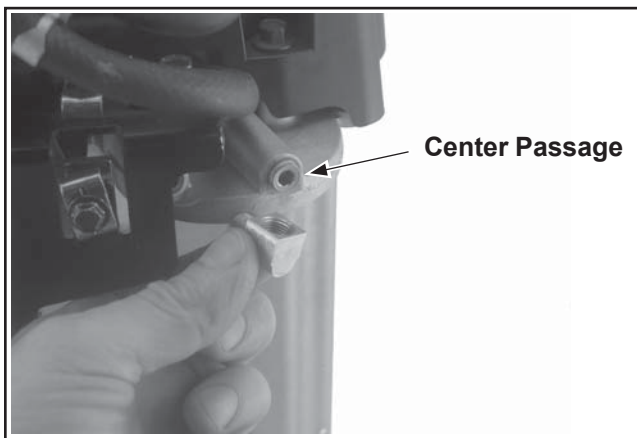
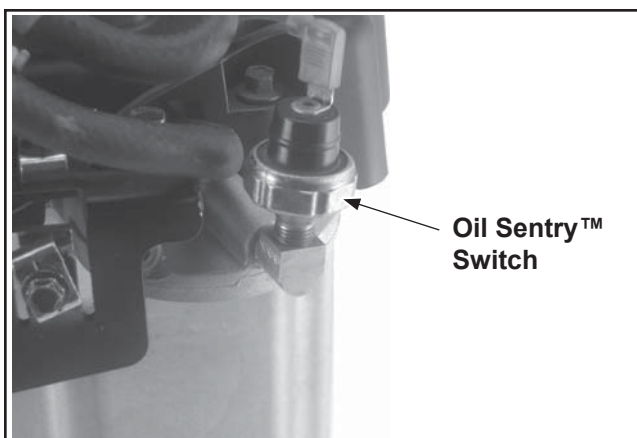

Figure 10-78. Installing Pipe Plug or Adapter.
Figure 10-79. Installed Oil Sentry™ Switch.
1. Apply **pipe sealant with Teflon®** (Loctite® No. 59241 or equivalent), to the threads of the 1/8" pipe plug or adapter. Install and tighten into the port on the closure plate. See Figure 10-78. Torque pipe plug to **4.5-5.0 N·m (40-45 in. lb.)**. If a switch was installed, apply sealant to the threads of the Oil Sentry™ switch and install into the adapter or center passage. Torque the switch to **4.5-5.0 N·m (40-45 in. lb.)**. Connect the green wiring harness lead to the terminal on the switch. See Figure 10-79.